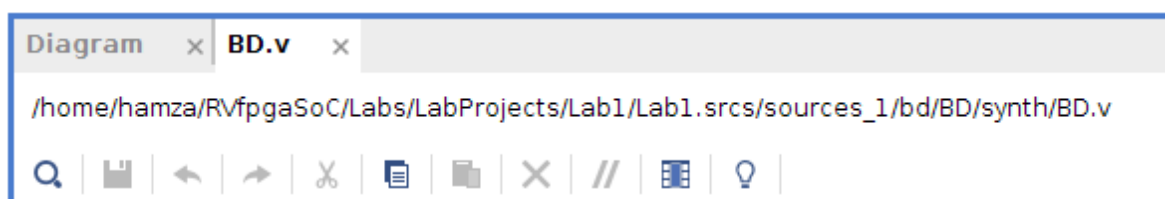
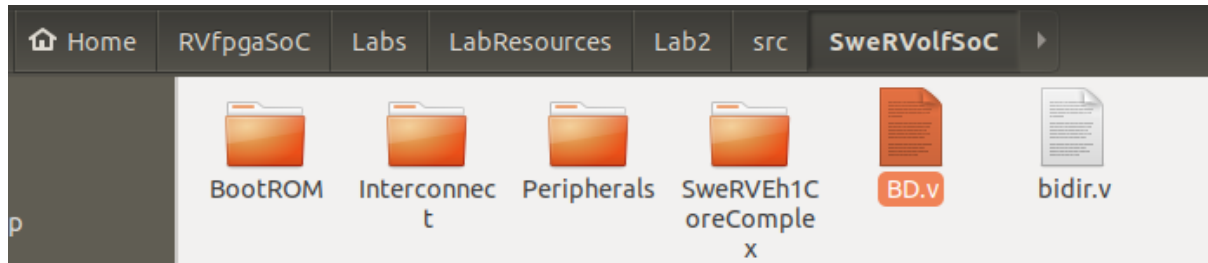

Figure 4. The path of the “BD.v” Verilog file of “Block Design” module
Figure 5. “BD.v” Pasted in the “SweRVolfSoC” directory.
When we created the HDL wrapper in the previous lab, we were provided with its full path (see Figure 4). We will need to navigate this path and then copy the file.
Step 1. Copy the “BD.v” file from the path given in (Figure 4) and paste the “BD.v” file to the following path (see Figure 5):